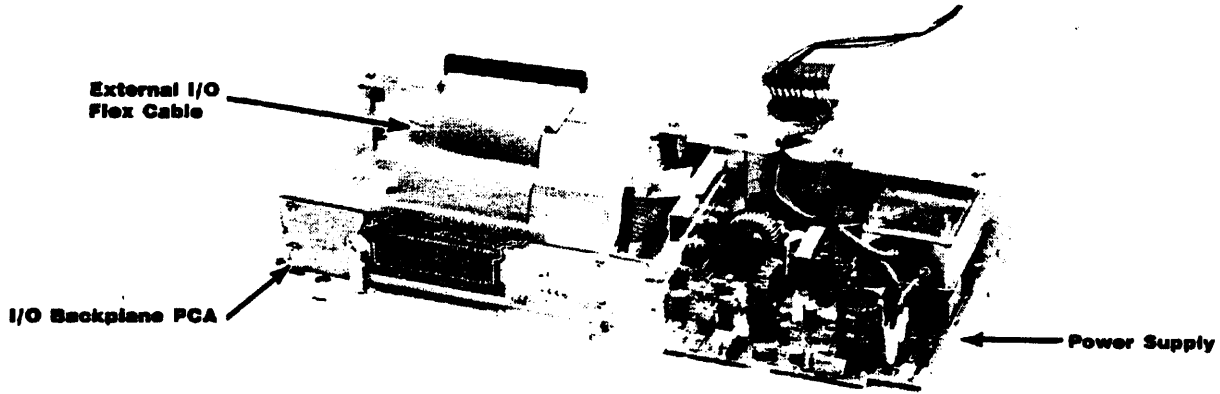

Figure 6-30b. Base Assembly With Cover Removed
16. Press the HP-IB ribbon-cable connector down through the grommeted hole. Remove the cover from the base assembly being careful not to damage the external I/O flex cable. The base assembly should now appear as shown in figure 6-30b.